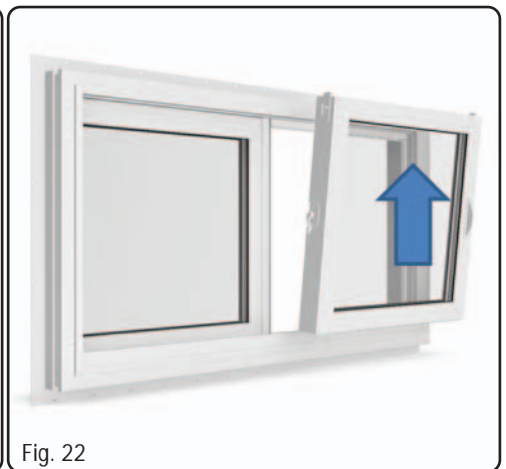

Fig. 22
4. Lift the sash upward so that it clears the sill (Fig. 22).